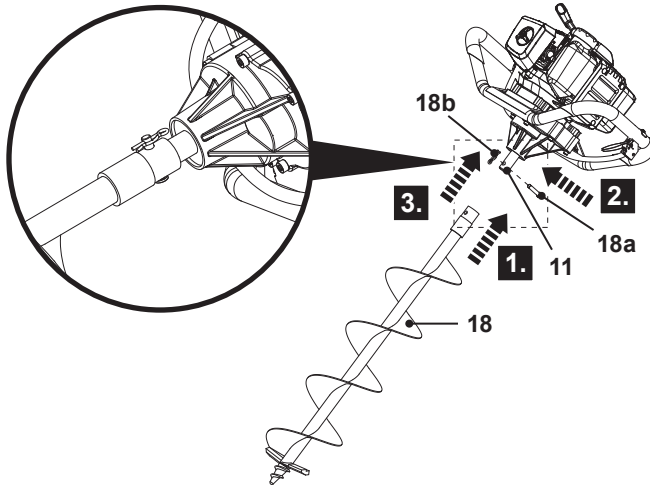

Fig. 1
3. Align and assemble the drilling tool (18) onto the spindle (11) (Fig. 1, step 1). Rotate the drilling tool (18) until the mounting holes are aligned.
4. Pass the mounting bolt (18a) through the mounting holes (Fig. 1, step 2).
5. Secure the connection by passing the R-clip (18b) through the hole of mounting bolt (18a) (Fig. 1, step 3).